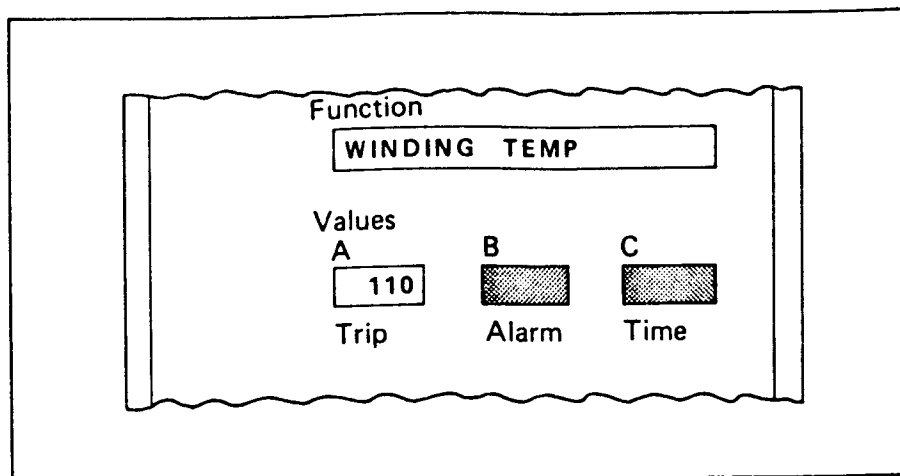

Figure 7.2 – Reviewing Message
Step 1 — Depress the SET POINTS pushbutton. At this time WINDING TEMP is displayed in the FUNCTION window. (See Figure 7.2.) Also, all values related to this function are displayed.